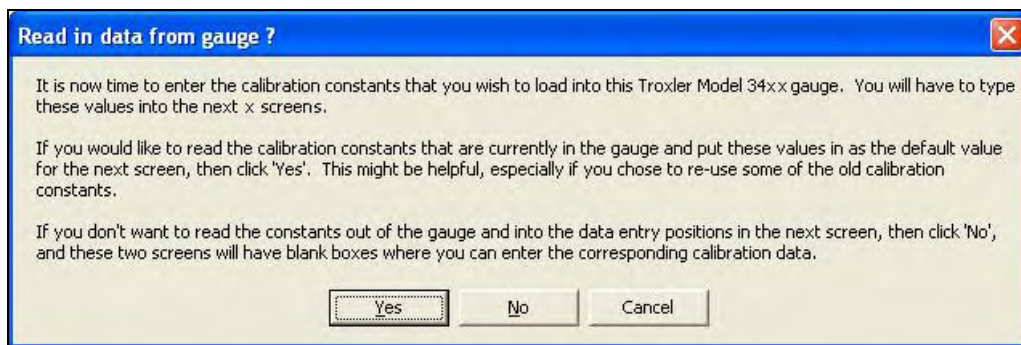

Figure 8. Query Regarding Whether to Read Calibration Constants from the Gauge
- 3.6 As shown in Figure 8, the software now asks if the user would like to read (upload) the calibration constants currently stored in the gauge or not. This option is useful if you plan to re-use some of the current calibration constants. The software will read the values from the gauge and pre-load them into the data entry fields used to enter calibration constants into the gauge. If you do not plan to re-use any calibration constants, this option only creates more work.